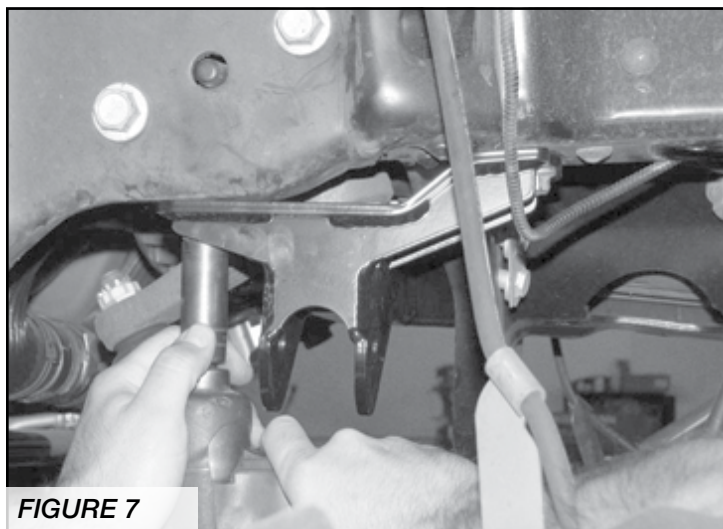

FIGURE 7
8. Locate FT30463BK Track Bar Frame Bracket for 2008-11 models or FT30497BK for 2005-07 models. Attach to the frame using the original hardware in the same position. Torque bolts to 110 ft-lbs. **DO NOT ATTACH THE TRAC BAR TO THE FRAME BRACKET AT THIS TIME. SEE FIGURE 7**